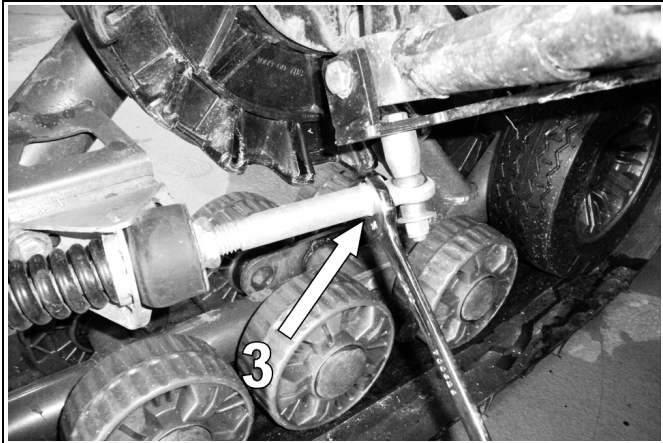

Figure 9
*NOTE: In some rare cases where the adjustment of the nut (1) compressing the spring is near the end of the threaded rod, extend the rod by unlocking the jam nut (item 3 on Figure 9) and unscrew the rod to obtain 19 mm max. of visible threads. Re-tighten the jam nut.*